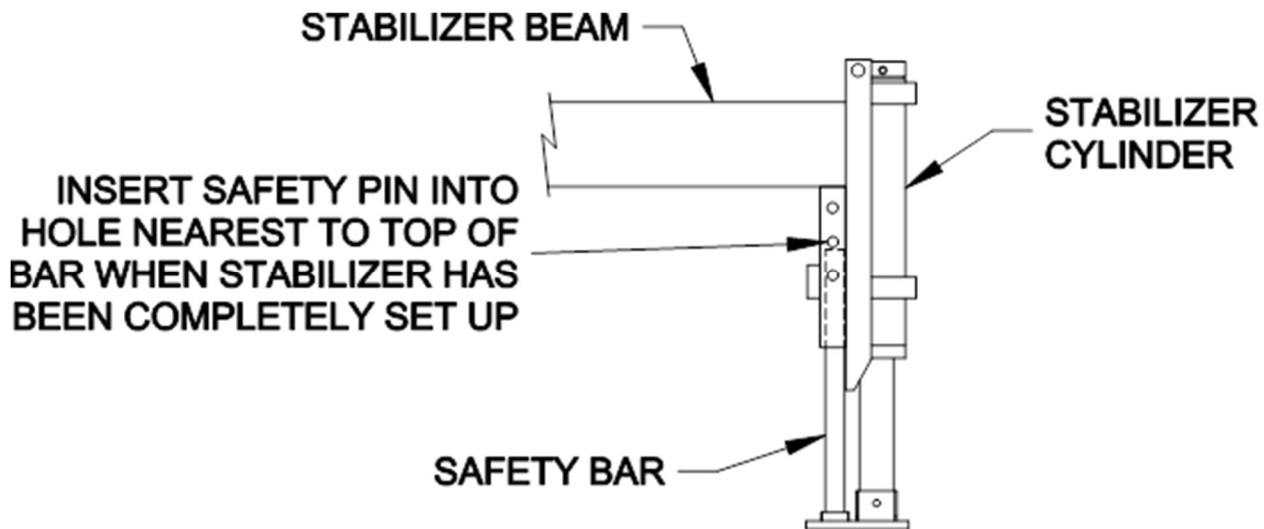

Figure 2- Jack Stabilizer Cylinders
1. Insert both safety pins into their appropriate holes just behind the front jack stabilizer cylinders. (See fig.2)